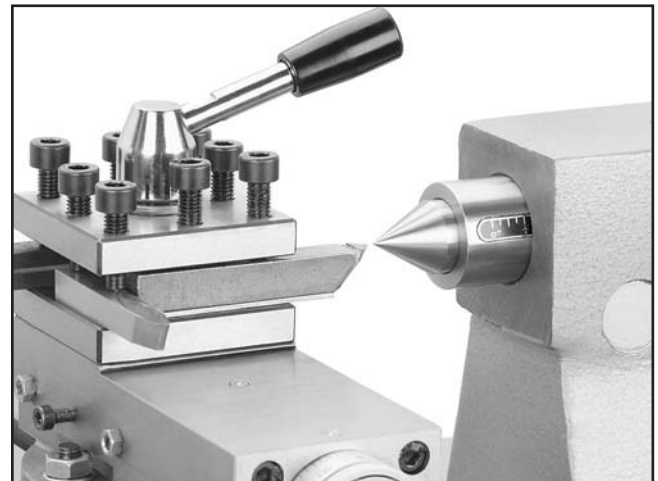

Figure 53. Using a center to check tool height.
- Make sure the top of the tool bit is at the lathe spindle center line or just below. Use a center mounted in the tailstock as a reference (see **Figure 53**).